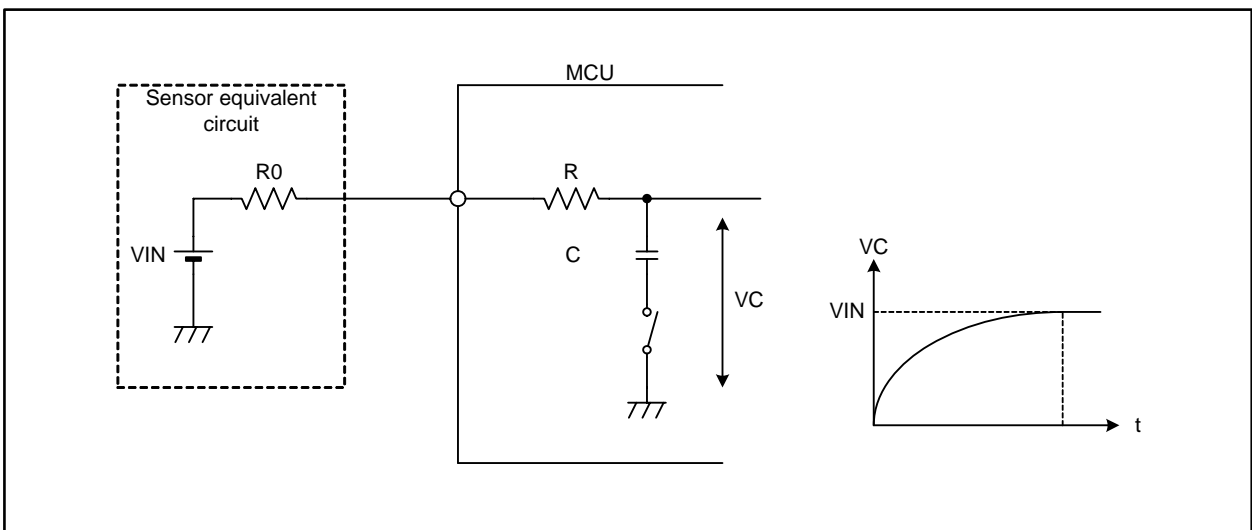

Figure 19.10 Analog Input Pin and External Sensor Equivalent Circuitry
Figure 19.10 shows an analog input pin and external sensor equivalent circuit.
To perform A/D conversion correctly, internal capacitor (C) charging, shown in Figure 19.10, should be completed within the specified period. This period, called sampling time, is 2 ϕ AD cycles for conversion without the sample and hold function and 3 ϕ AD cycles for conversion with this function.